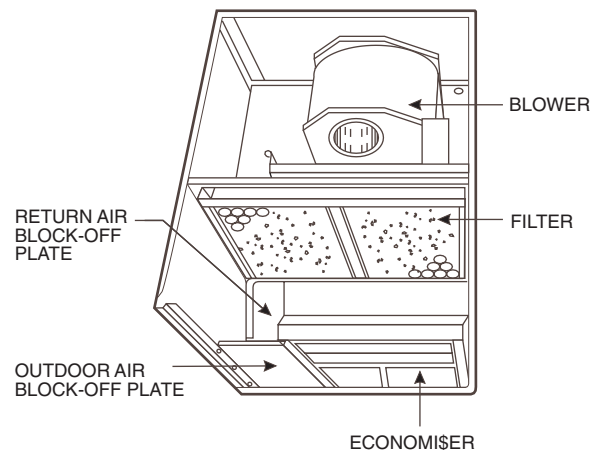

Fig. 36 — Return Air Block-Off Plate Installation
6. Install the return air block-off plate over the return air duct opening. See Fig. 36.
8. Install the outdoor air block-off plate, then secure the EconoMiSer with the screws provided. See Fig. 36 and 38.